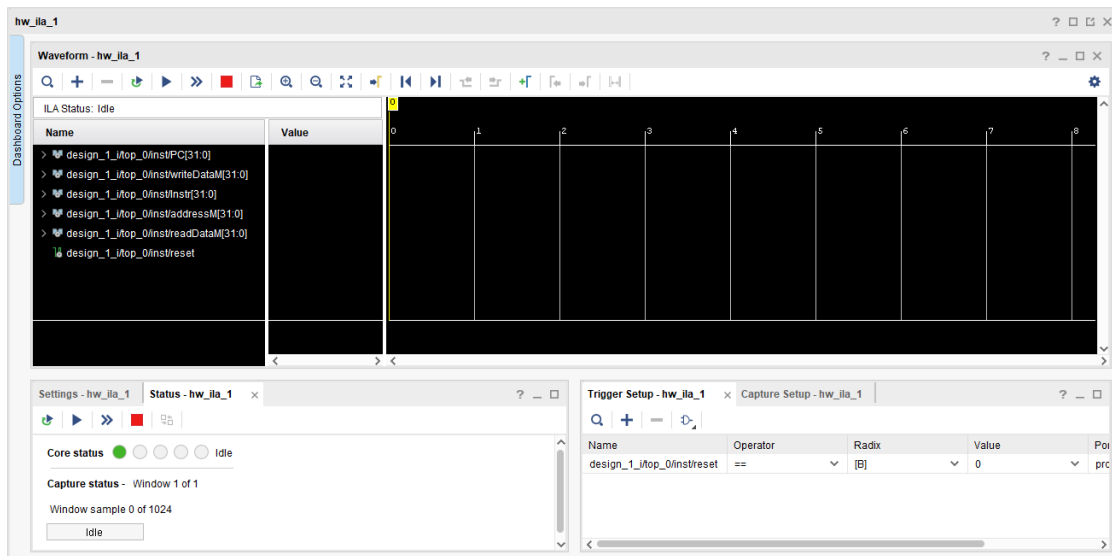

Figure 10: Signal Analyzer and Debug Trigger Menus
10. With the FPGA programmed and BTN0 still held down, press the play button along the top panel of the signal analyzer view that has appeared in the Hardware Manager window to arm a debug trigger that has been pre-applied (Figure 10).